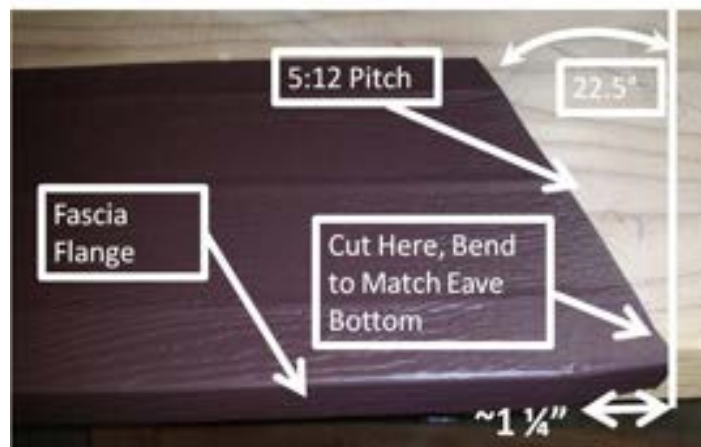

Figure 11-26. Eave End Gable Fascia.
9. Cut the fascia on this line; once installed, the cut edge will be vertical and will match the eave fascia corner. For reference, the blue scale indicates degrees; a 5:12 pitch aligns with 22.5°. Figure 11-26 shows the resulting piece after being cut to the correct angle.